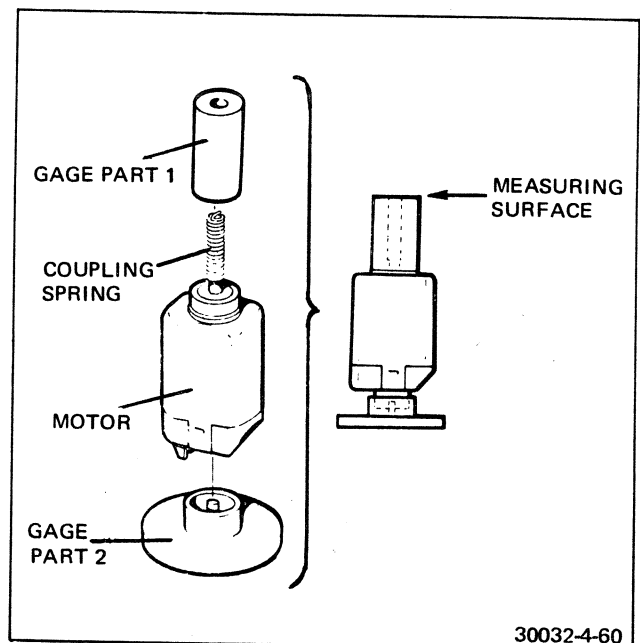

FIGURE 4-60 COUPLING SPRING GAGE
17. Before installing the motor, it is imperative that the coupling spring position be critically checked. Use the motor gage (Special Tool #11679). Place the gage as shown on Figure 4-60. Press firmly on the end of the gage to remove all end play. If the end diameter of the spring tang is not flush with the top of the gage, adjust the spring accordingly.